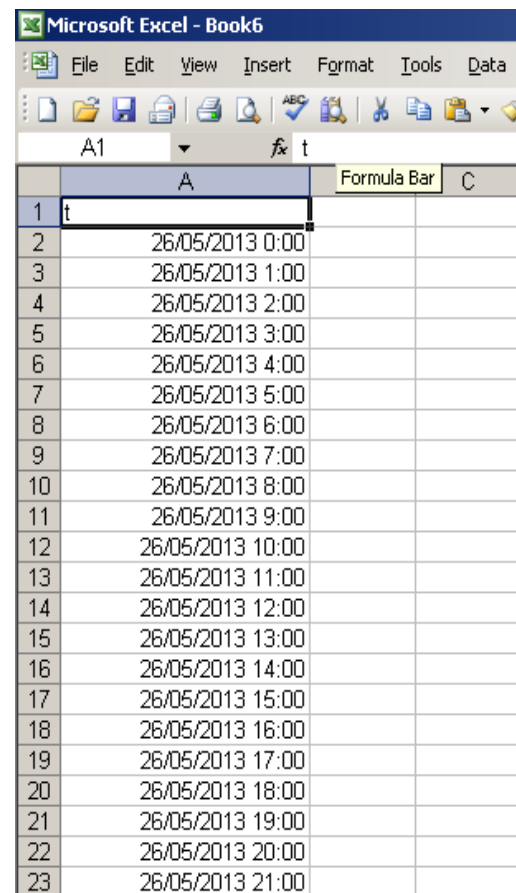

Figure 31: time series in human readable time
3. Fill in column A in the other workbook with a time series, starting at 26/05/2013 00:00:00 and incrementing by one hour (see Figure 31)
- Figure 31 is hourly time stamps, which means that after one hour of simulation time, a value is read from the input file.